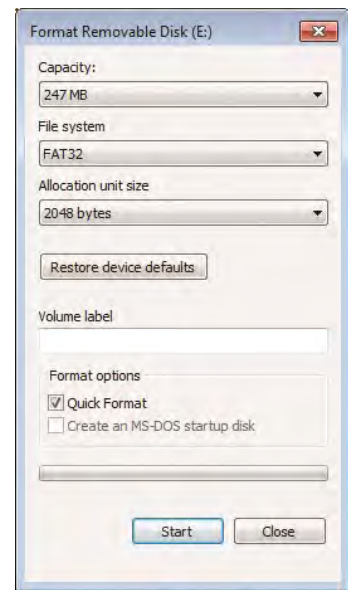

Fig. 2
- D. Select FAT32 in File System drop-down menu. See Fig. 2.